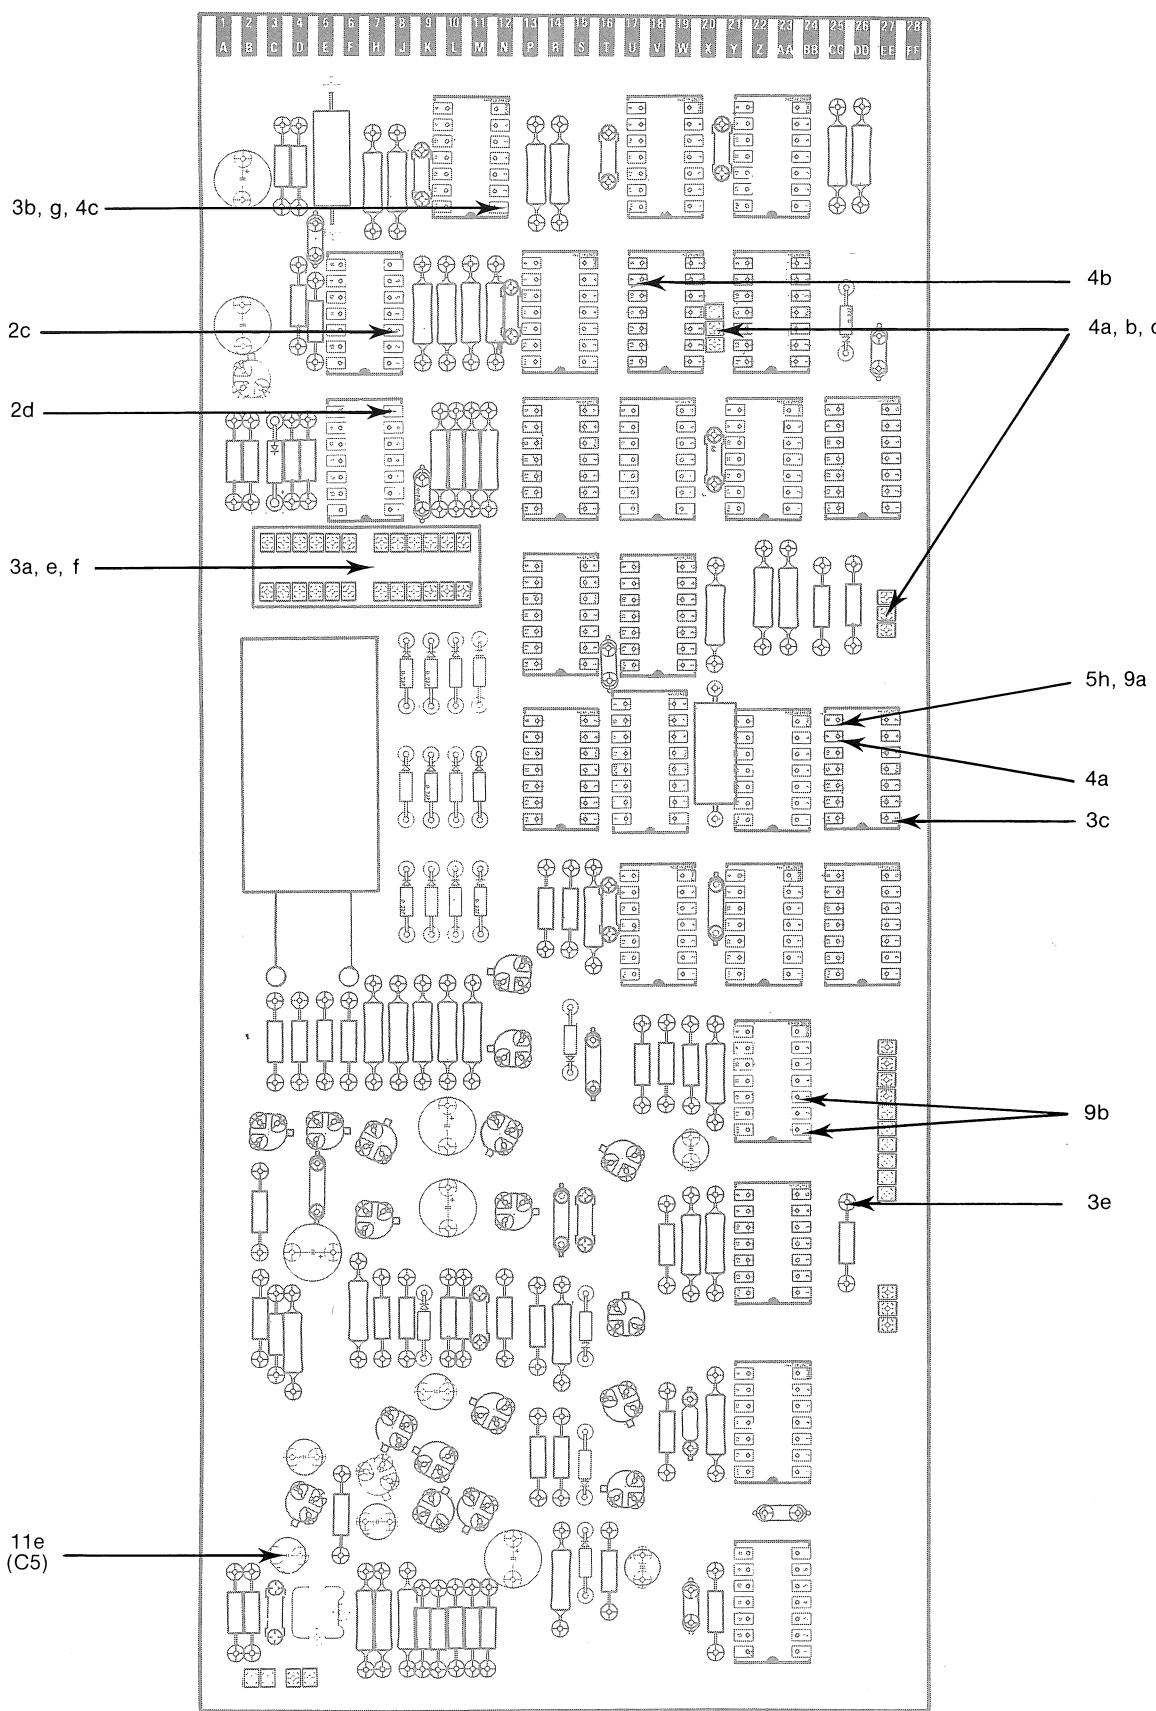
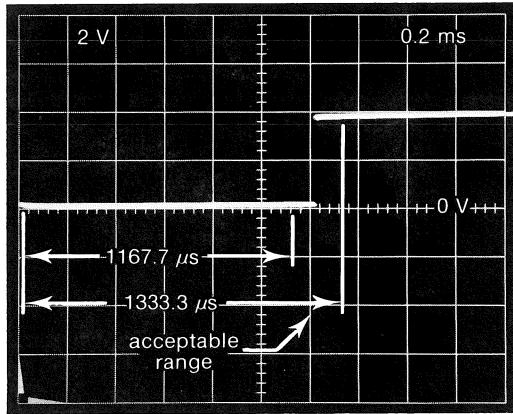
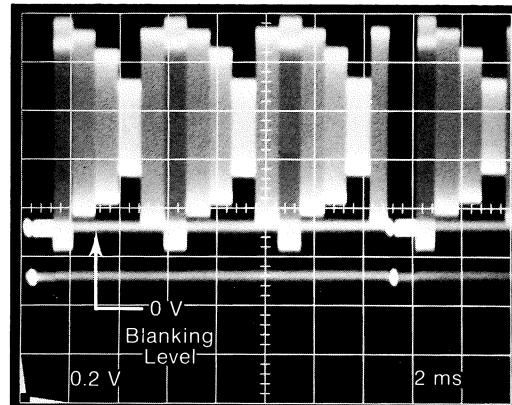
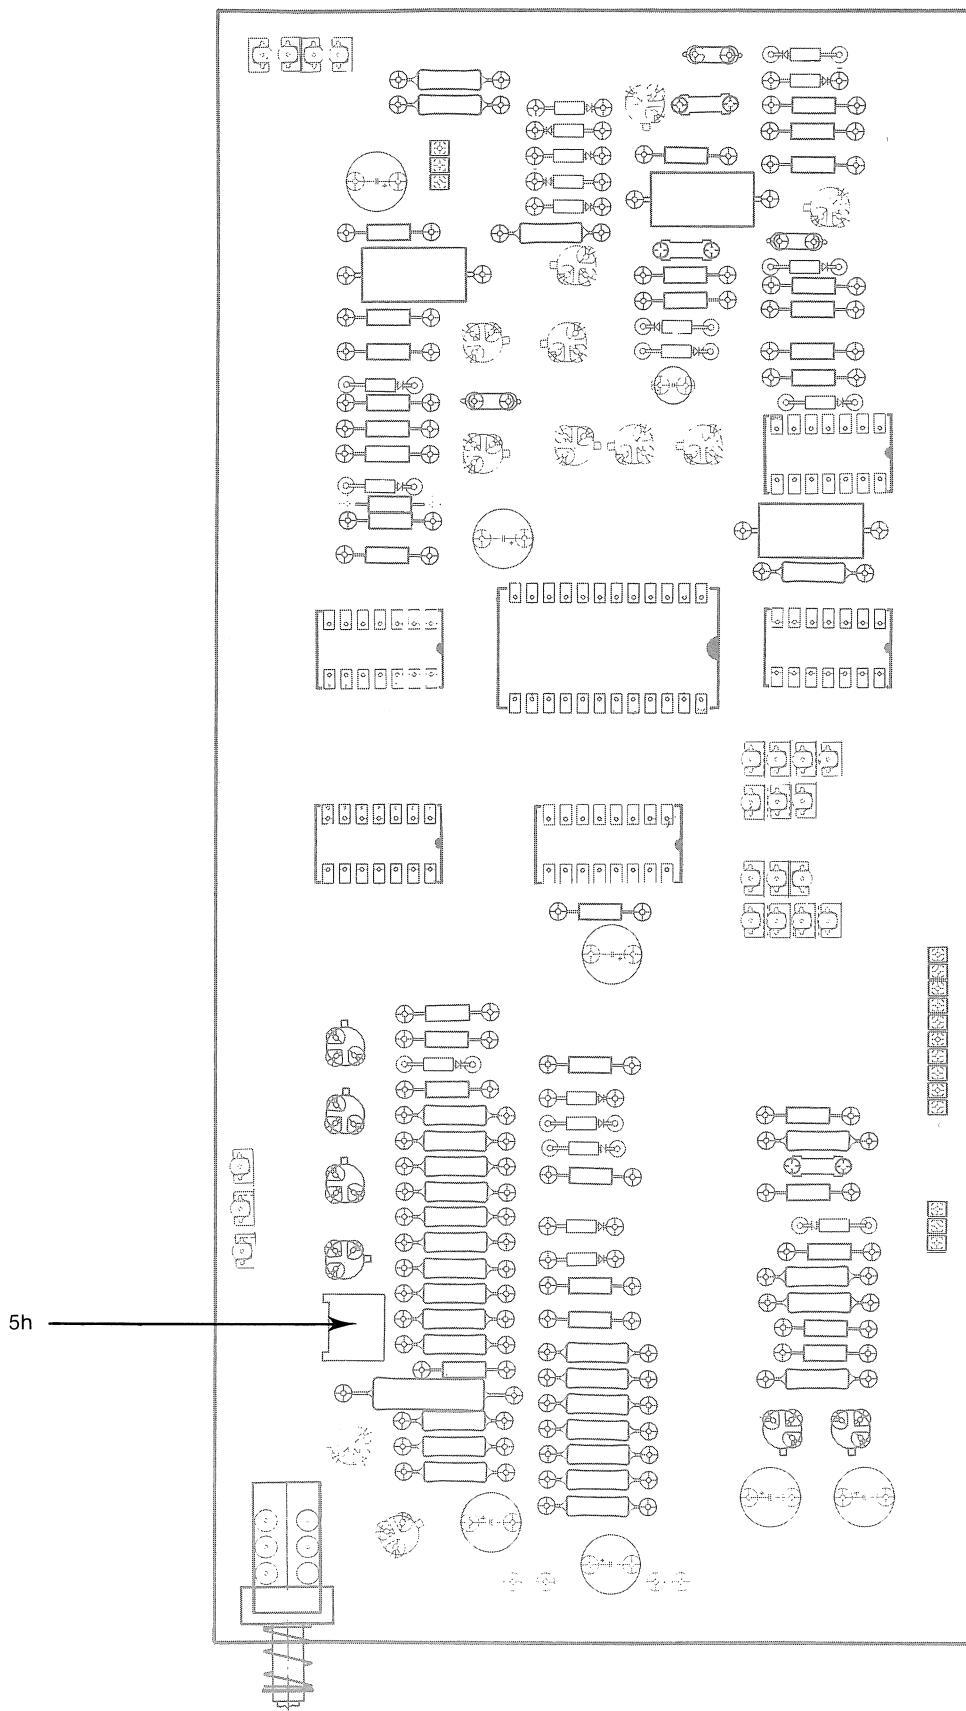

Fig. 2-4. The Sync Generator Board; Calibration and test points are indicated.
Fig. 2-5. The field (also called vertical) blanking pulse as seen at U655 pin 9. Its duration must be in the range 1167.7 to 1333.3 μ s.
Fig. 2-8. The composite video waveform for the Multiburst function. Blanking level should be adjusted to 0.0 V with reference to ground.
Fig. 2-9. The Logic and Output Board. Calibration point R280 is located.
c. Refer to Fig. 2-4, where calibration points of the Sync Generator board are noted. With the multimeter prepared to measure in the +5 volt range, place the probe on U185 pin 3. Measure +4.95 to +5.05 volts. Confirm ripple less than 5 mV., and that tolerances are maintained within the 104 to 126 Vac line voltage range.
a. Refer to Fig. 2-4 for test and calibration points of the Sync Generator board. Set the rocker switches (SW165 and SW265) to the desired line per frame ratio, as outlined in the beginning of this section.
e. Remove the DC 503 probes. Connect the channel A probe to the diode side of R625, a test point located in Fig. 2-4. Set the counter function switch to Freq A, gate of 1 s. Turn all of the rocker switches to the position marked OFF. Turn each switch, one at a time, to the ON position. The counter should read a value equal to the crystal frequency divided by the number associated with the particular switch. For example, the following values should be observed with a crystal of 31.500 kHz inserted:
a. Refer to Fig. 2-4. Place the Resolution Strap in the 525/625 position. Place the Serration strap in the W/S position. Connect the signal on U655 pin 9 to the oscilloscope by means of a X10 probe. With the oscilloscope sweep set at 0.2 ms per cm, verify a field blanking pulse with a duration of from 1167.7 μ s to 1333.3 μ s (Fig. 2-5).
a. Refer to Fig. 2-4 for location of Oscillator and Grayscale board test points and calibration adjustments.
h. Connect the Composite Video Output 1 V P-P signal to the oscilloscope vertical input, terminating with a $75\ \Omega$ impedance. Drive the oscilloscope external trigger with the signal at U655 pin 8 (V BLNK located in Fig. 2-4). Set sweep to 2 ms per cm, and vertical deflection to 0.2 V per cm. Observe the composite video waveform on the screen (Fig. 2-8). Adjust R280, located on the Logic and Output board (Fig. 2-9) for a blanking level of 0.0 V to ground.